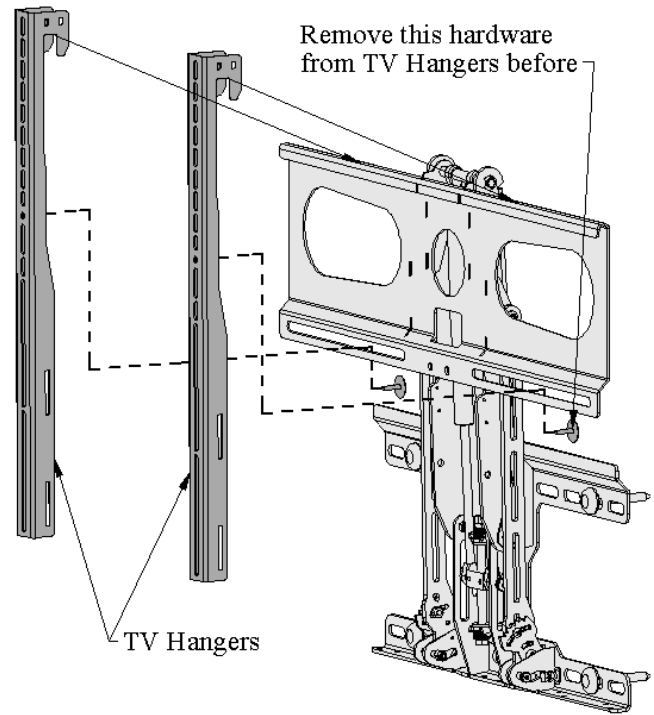

Figure 10, Attaching the Television
3. Hook the TV Hangers (with the TV attached to them) over the Hook Plate as shown in Figure 10.